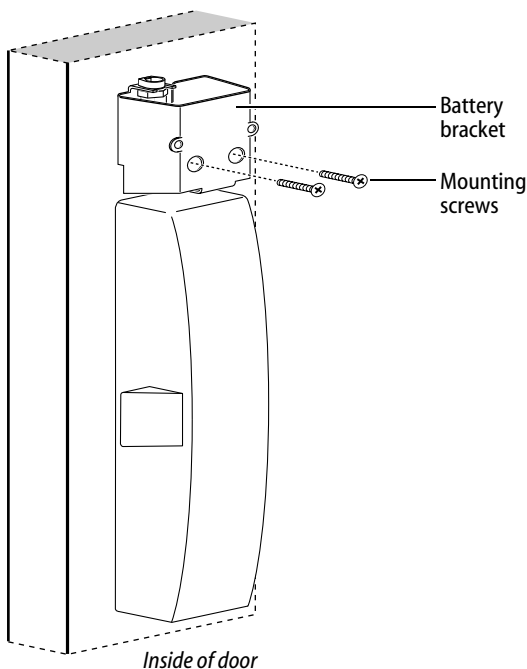

Figure 12 Installing the battery bracket on the door
- 1 Position the battery bracket on the inside of the door as shown in Figure 12.